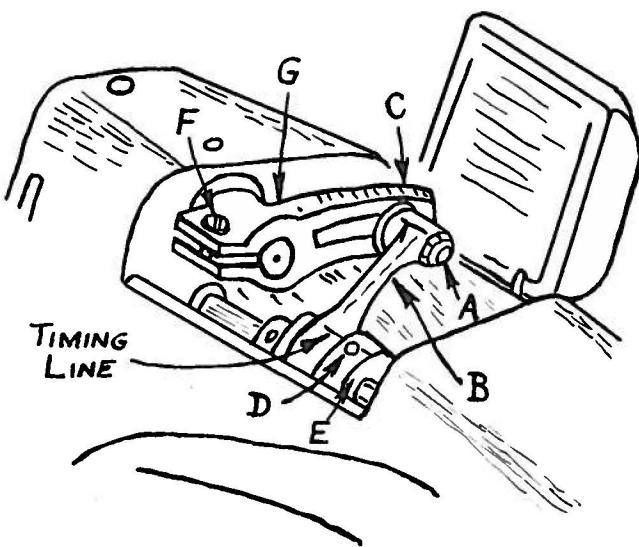

Fig. 17A
Open top cover in the head of the machine and loosen the "Grip-Feed" drive segment locking nut (A, Fig. 17A), and set connection (B) to point of shortest stitch length. This would locate the connection (B) at letter "A" (point C).